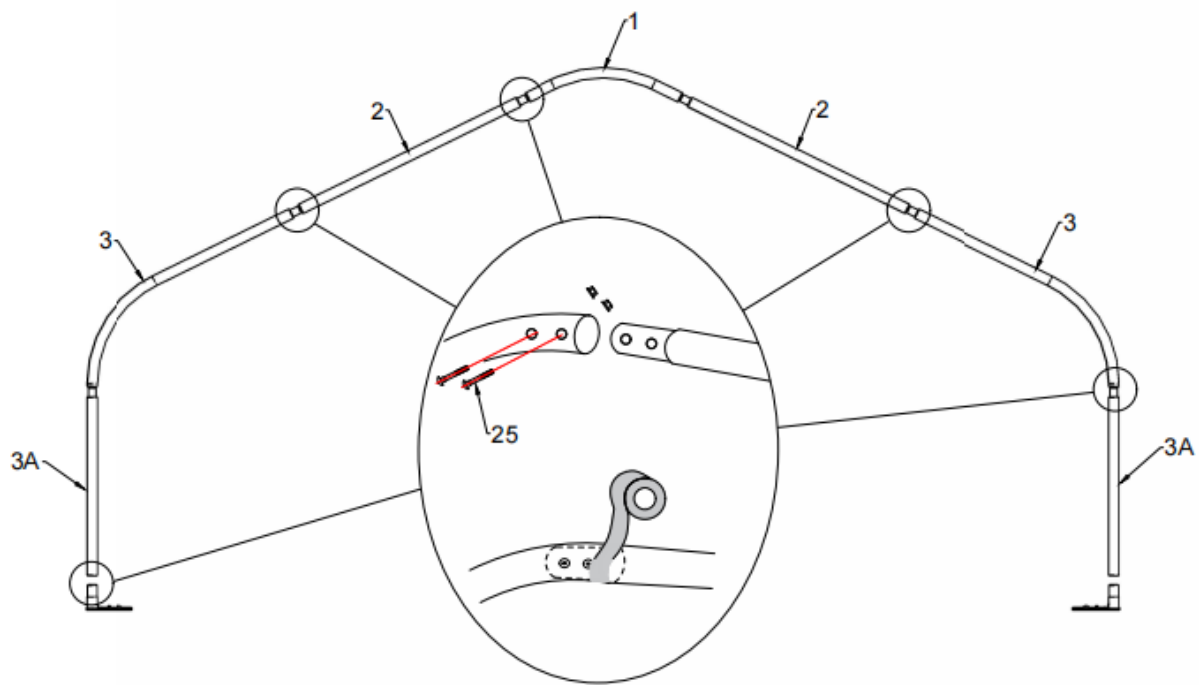

Figure 2
3.1 As Figure 2 shown to find one Roof Bent Tube (No.1), two Upper Bent Tubes (No. 2), Shoulder bent tube (No. 3) and assemble every group arch with Carriage Bolt M10*90 (No.25). DO NOT install the screw on the top of the truss where the fabric will rest.